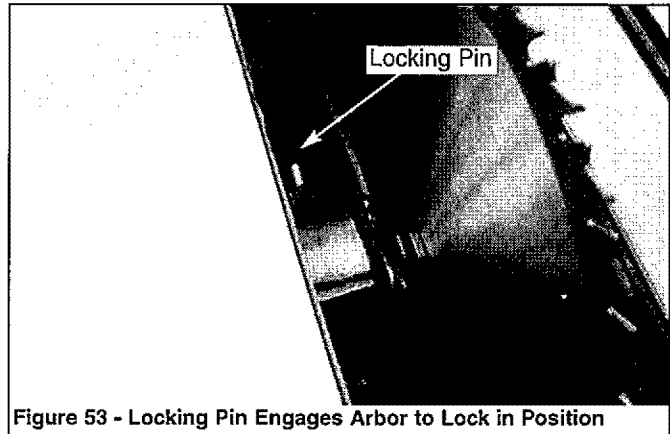

Figure 53 - Locking Pin Engages Arbor to Lock in Position
Refer to Figures 53 and 54.
- Depress locking pin (see Figure 53) and slowly rotate blade toward you until pin engages into arbor. Hold arbor in locked position.